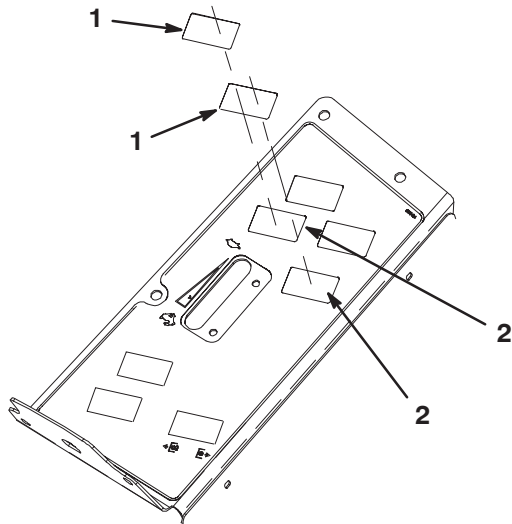

Figure 24
37. Locate and remove the two knock out plugs, shown in figure 24, from the top of the control panel.